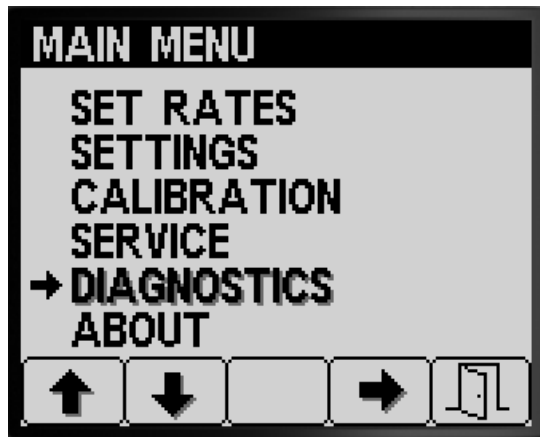

Figure 83
- To access the Diagnostics screen press buttons 1 or 2 on the Main Menu screen to navigate to the DIAGNOSTICS option (Figure 83); refer to Accessing the Main Menu Screen \(page 3\).
- Press button 4 to select DIAGNOSTICS sub-menu (Figure 83).